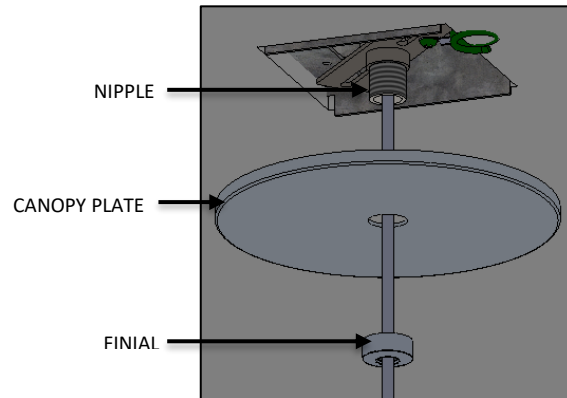

FIG. 37 – FINIAL ASSEMBLY
29. Raise CANOPY PLATE and secure to ceiling by threading the FINIAL to the NIPPLE (available in MOUNTING BRACKET ASSEMBLY) as shown below in FIG. 37.